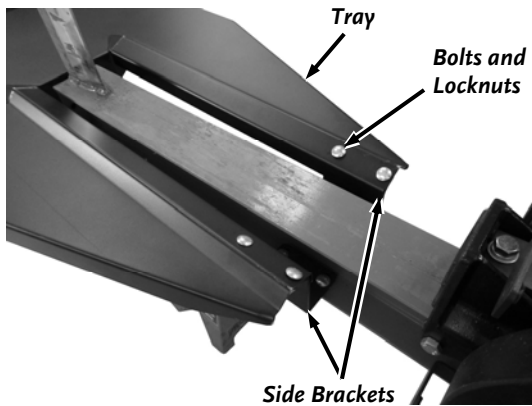

Figure 11
4. For easier alignment in the following step, slightly loosen the Side Bracket Hardware using a 9/16" Wrench (**Figure 11**).